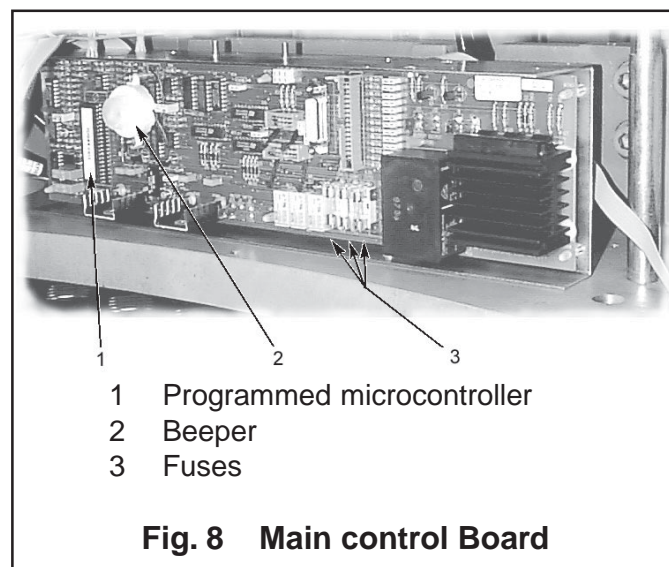

Fig. 8 Main control Board
6.13 The mains fuse is found in the table base on the standby panel (item 4, Fig.4). The other three fuses are fitted on the main control PCB (see Fig. 8) in the base of the table underneath the covers. For access see sections 6.24 to remove the covers and 6.25 to refit them.